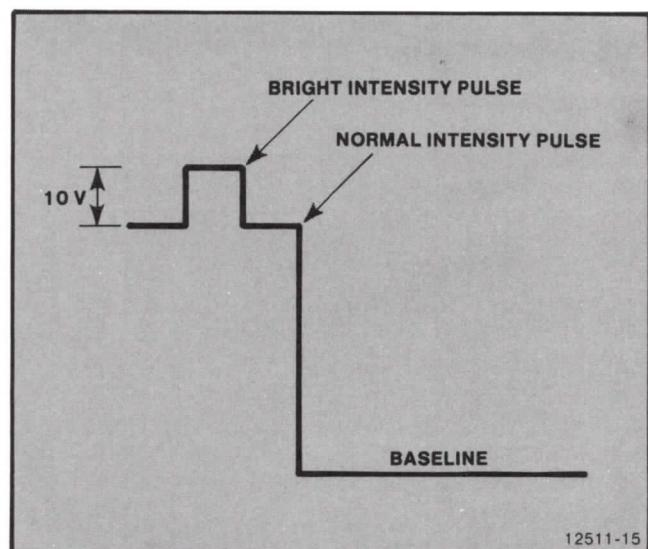

Figure 4-15. Brite Intensity Pulse.
- ADJUST — R415 (Brite Intensity) on the HV & Z Axis board for 10 V higher than the NORMAL INTENSITY level. See Figure 4-15.